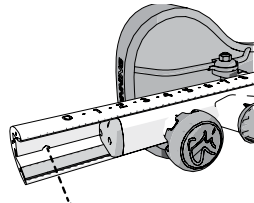

Figure 6
2. Insert one bolt **3** into the underside of the seat slider and fully tighten it to set the travel limit (Figure 6).